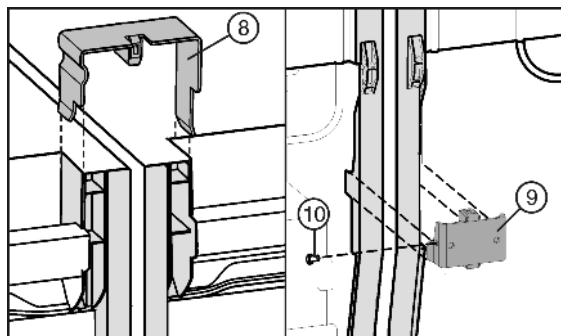

Fig. 7
- ▶ Insert the joining clamp Fig. 7 (8) at the top of the centre side walls.
- ▶ Insert the joining angle Fig. 7 (9) into the recess at the bottom.
- ▶ If the joining angle is too loose, fix it with a screw Fig. 7 (10).